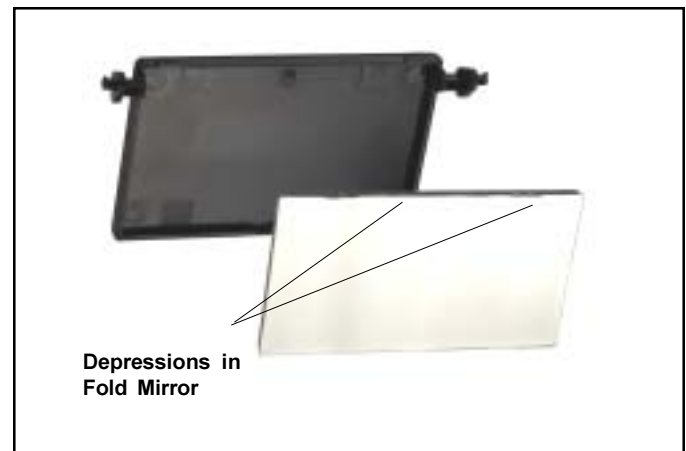

FIGURE 29 - REPLACEMENT FOLD MIRROR
1. Locate one of the four depressions along the perimeter of the fold mirror. Refer to Figure 29.